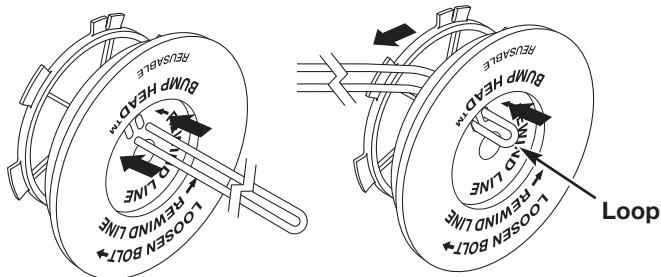

Fig. 35
6. Take approximately 20 feet (6 m) of new trimming line, loop it into two equal lengths. Insert each end of the line through one of the two holes in the inner reel (Fig. 35). Pull the line through the inner reel so that the loop is as small as possible.